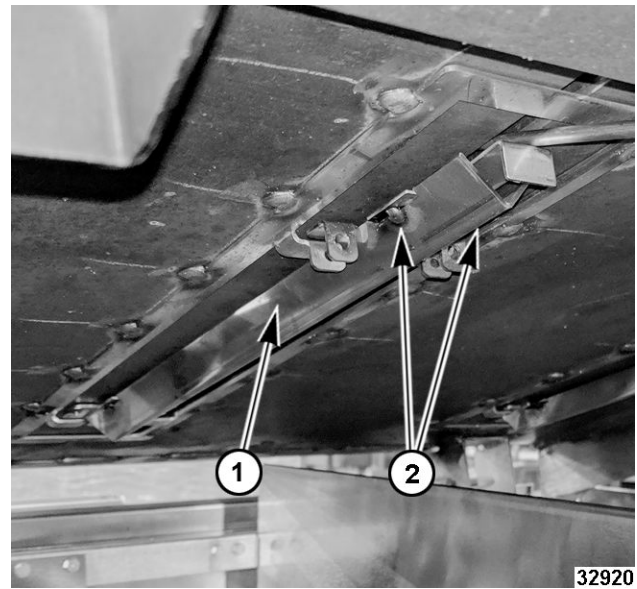

Fig. 100
12. Verify bulb is seated properly and shield (1, Fig. 100) is back in place, fasten tight with two screws (2, Fig. 100).